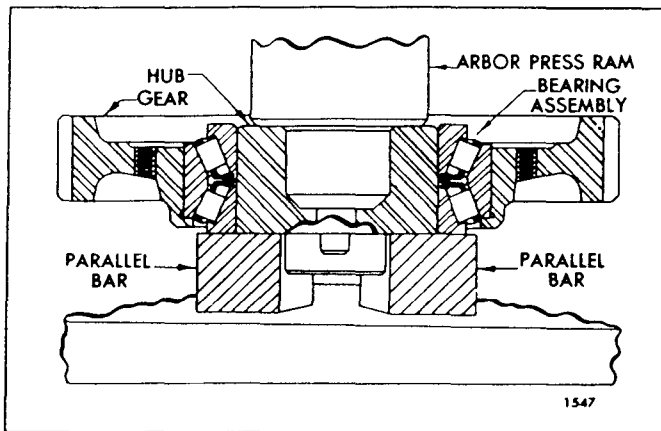

Fig. 9 - Pressing Hub into Bearing
6. Press the hub into the idler gear bearing cones, while rotating the gear (to seat the rollers properly between the cones), until the face of the hub which will be adjacent to the cylinder block end plate is flush with the corresponding face of the bearing cone. The bearing cones should be supported so as not to load the bearing rollers during this operation (Fig. 9).